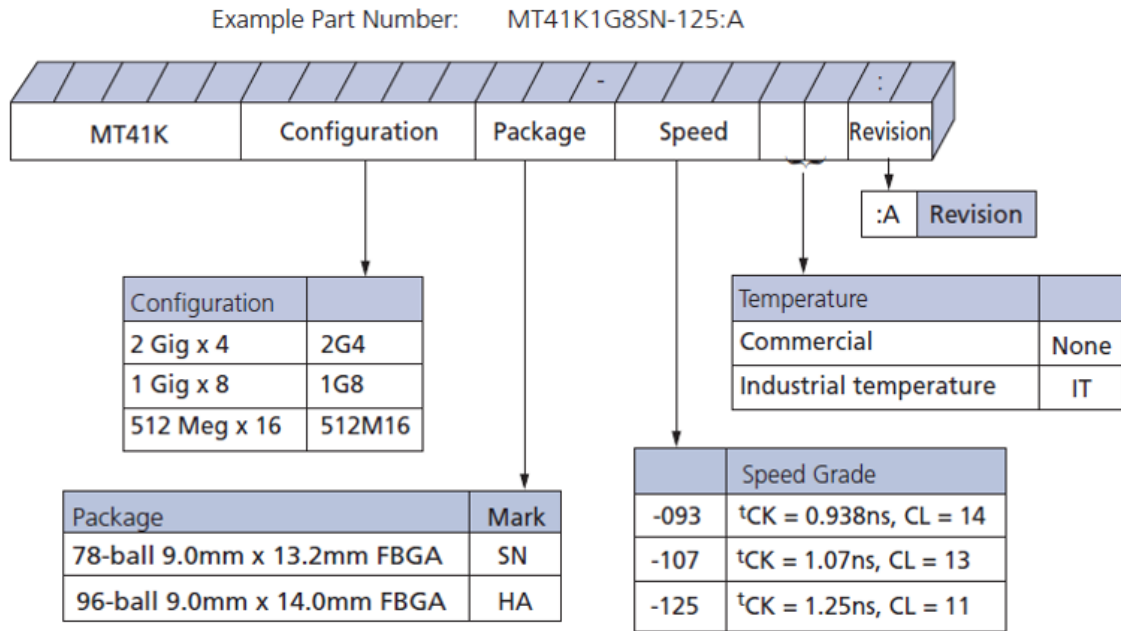

Figure 5-3: DDR Example Part Number
**Note:** Content of Figure 5-3 used with permission by Micron Technology, Inc.
- The Micron data sheet in Figure 5-3 shows an example part number and how to identify specific information of interest. For MT41K1G8SN-125:A: